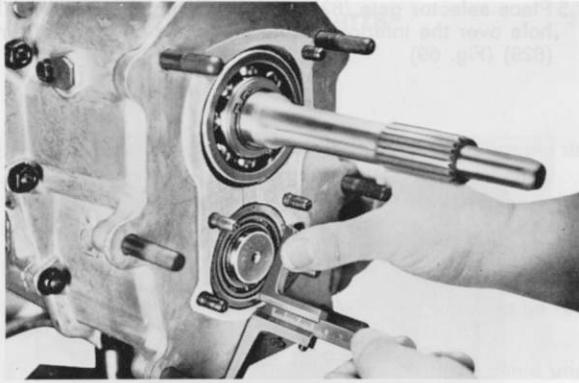

Fig. 61
- Place O-ring (815) in the radial groove of the speedo bush (814). Press shaft seal (812) with tool .10. into the speedo bush (sealing lip upwards). Put speedo shaft (813) into the speedo bush and insert both together in the bore of the speedo cover. Screw in self locking bolt (816) with spring washer (807).
- With the larger internal dia facing the inside of the gearbox, place the outer ring of bearing (303) into the bore for the layshaft bearing of the front cover (101).
- Push gasket (204) over the threaded studs.
- Press shaft seal (207) into the bore of the withdrawal bearing carrier (206) with tool No. .9. Sealing lip must point to inside of the housing.
- Gently tap layshaft with a plastic or lead hammer towards rear (output side) until the bearing outer ring lies on the speedo cover. Press down the front bearing outer ring and with a depth gauge, measure the distance from the upper edge of the bearing outer ring to the gearbox joint face with the gasket in place (Fig. 61).